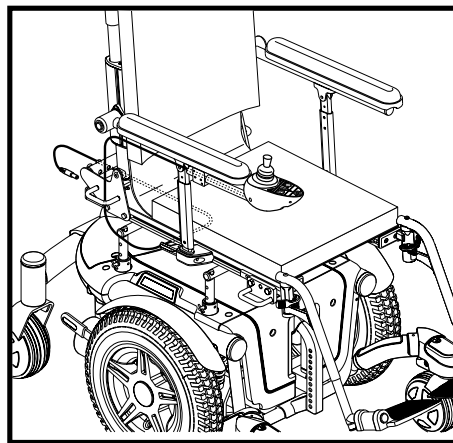

Figure 14. Cable Routing
6. Route the controller cable to the back of the power base and reconnect the controller. See figure 14.